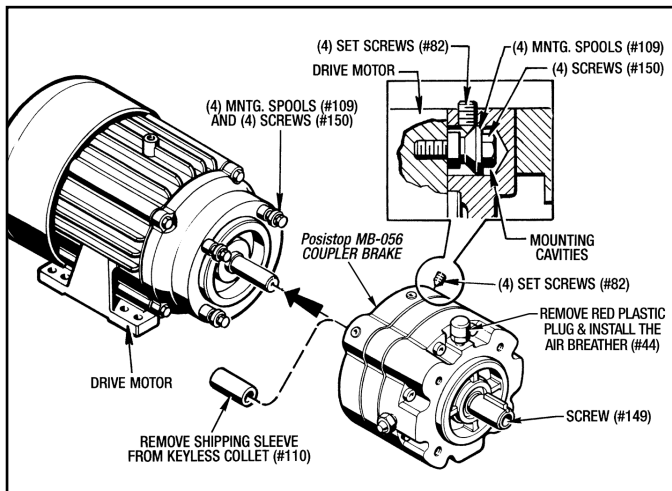

Figure 3 - Mounting The MB-056 Coupler Brake
The **Posistop MB-056 Coupler Brake** is shipped pre-assembled except for the (4) Mounting Spools (#109) and (4) Hex Hd. Mounting Screws (#150). The Key (#180) is also shipped loose. There is a red plastic plug in the hole for the Breather (#44). Remove this red plastic plug and install the Breather (#44). (See Figure 3) **Failure to install Breather can damage the brake and void the warranty.**
(See Figure 3)
2. Install the (4) Mounting Spools (#109) and the (4) Screws (#150) to the motor face as shown in Figure 3. Use **Blue Loctite #271** on these screws. Only moderately tighten them up at this time. **Do not torque these (4) Screws (#150) at this time.**